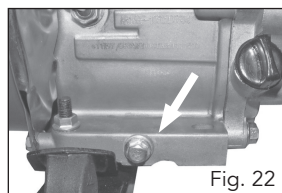

Fig. 22
3. Place a oil pan under the generator and remove the drain plug (12) (Fig. 22) so that all the oil can be completely drained.